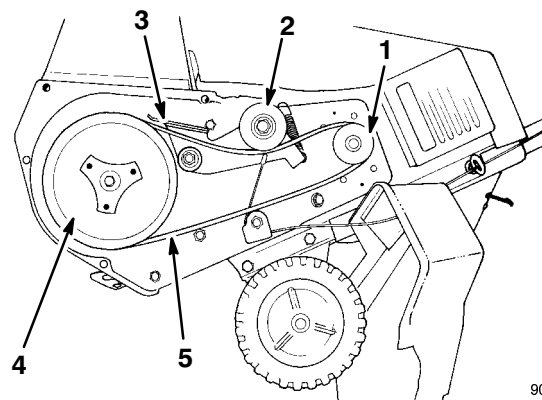

Figure 20
12. Pull the idler pulley up slightly while pulling out the drive belt. Allow the pulley to gradually release when it can move past the belt (Fig. 20).
15. Release the idler pulley, and slip the belt under the idler pulley (Fig. 20).